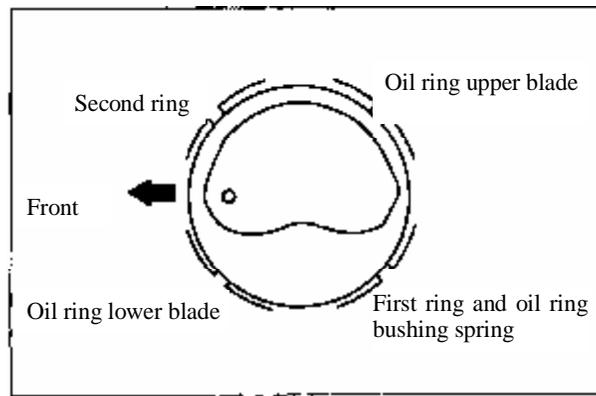

Figure 3-35 Opening Positions of Piston Rings
**3.3.6** After three piston rings are installed onto ring grooves, their opening positions should be interleaving as shown in Figure 3-35 with marks on first ring and second ring facing upwards.